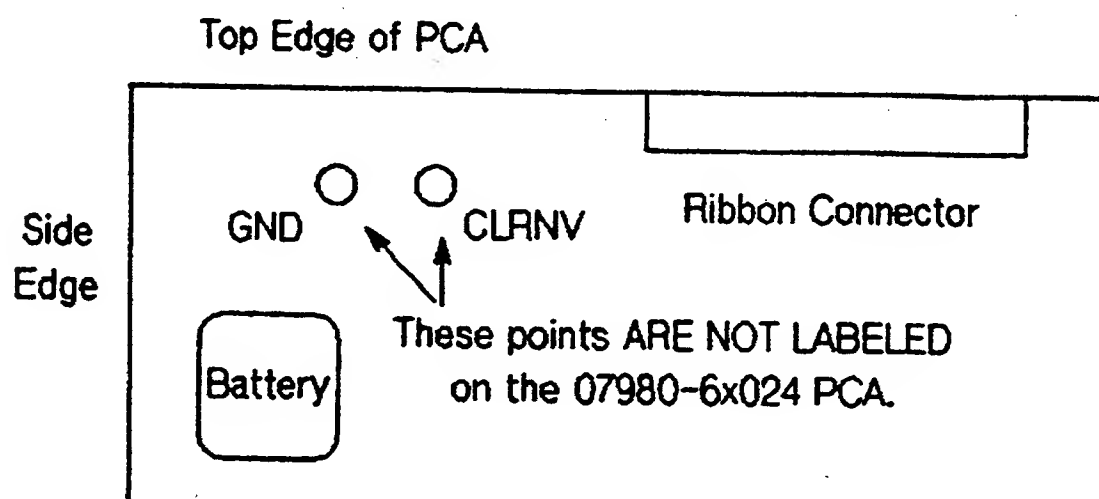

Figure 3-6. Data Buffer PCA GND/CLRNv Jumper Points
1. Attach a jumper wire between the GND and CLRNV points on the Data Buffer PCA as shown in Figure 3-6.